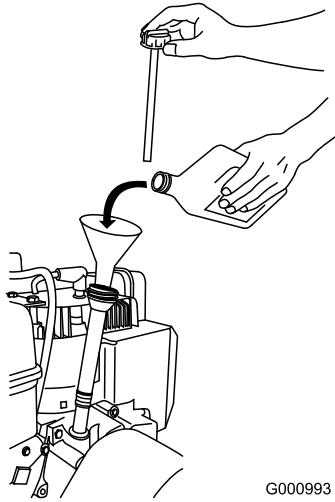

Figure 40
- Remove the dipstick and check the oil level (Figure 40). If the oil level is below the Add mark on the dipstick, add oil. Refer to Filling the Engine with Oil.